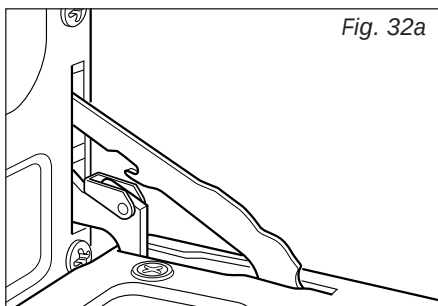
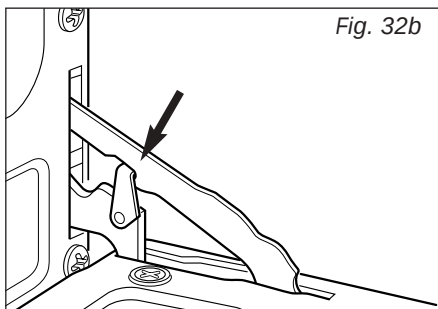

Fig. 32a
Fig. 32b
- The swivel retainers of the rh and lh hinges (fig. 32a) are hooked onto the metal bar above them (fig. 32b).